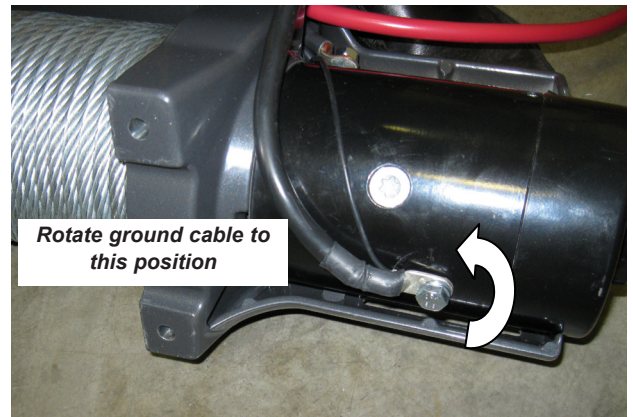

Figure 18
NOTE: The motor ground cable may need to be rotated at the motor to avoid interfering with the frame bracket bolts. Figure 18. Use the hardware supplied with the winch. Tighten to the torque specification supplied with the winch.
19. Remove the factory fog lamps from the factory bumper by removing the 4 Phillips screws around each lamp. Figure 18.